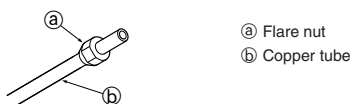

Fig. 5-5
5.2.3. Putting nut on (Fig. 5-5)